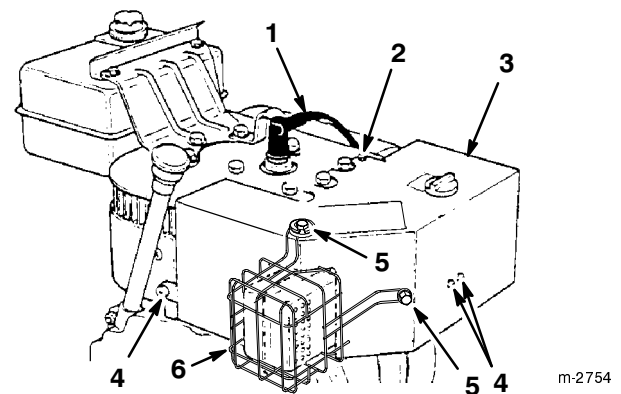

Figure 17
If you operate the engine when the air temperature is above 40°F (4°C), remove the carburetor heater box (Fig. 17).
1. Disconnect the wire from the spark plug and make sure that the wire does not contact the plug (Fig. 17).
4. Remove two Phillips screws, two hex head screws, and one lock washer that secure the carburetor heater box in place (Fig. 17).